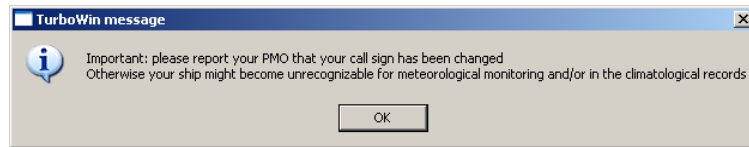

Figure 7. Change of Call sign warning dialogue box
- 10.1.5.** If the ship's **call sign** should subsequently change, the Observing Officer can enter the new **call sign** in this dialogue box. Click **OK** to save the new **call sign** and to display the dialogue box at **Figure 7**.